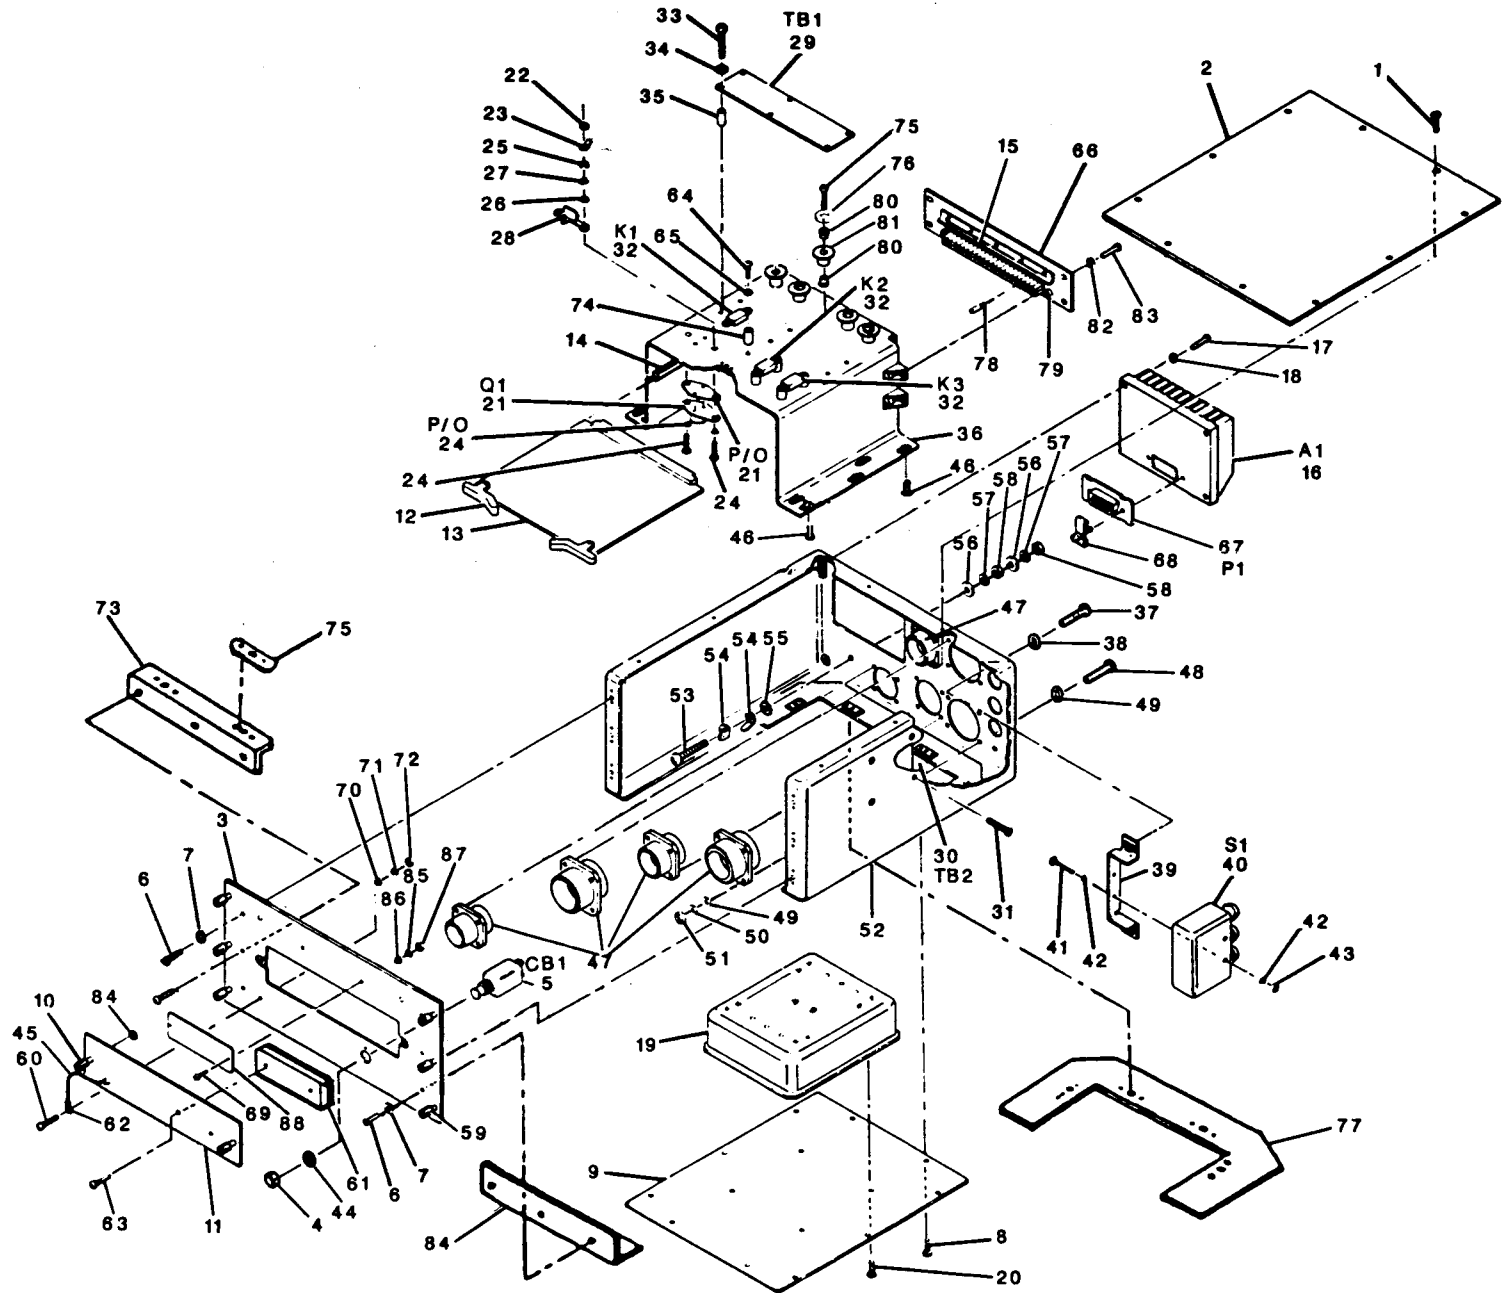
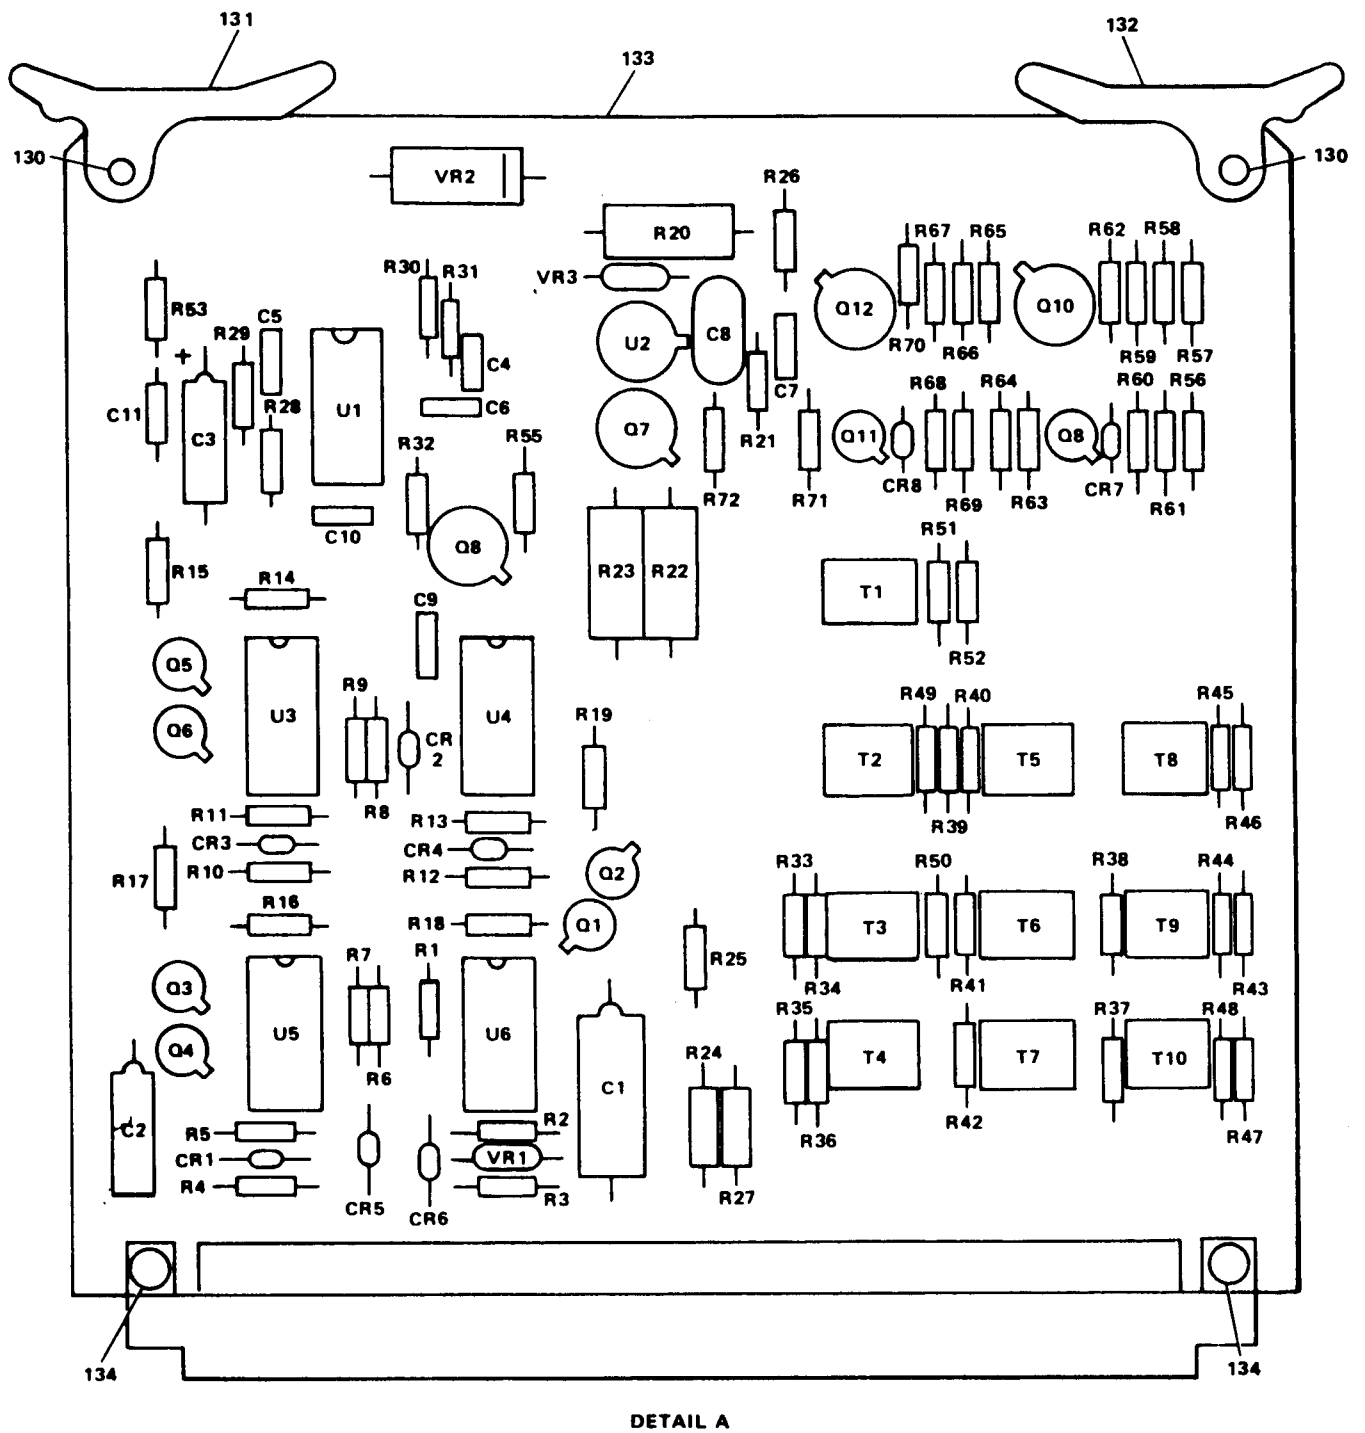
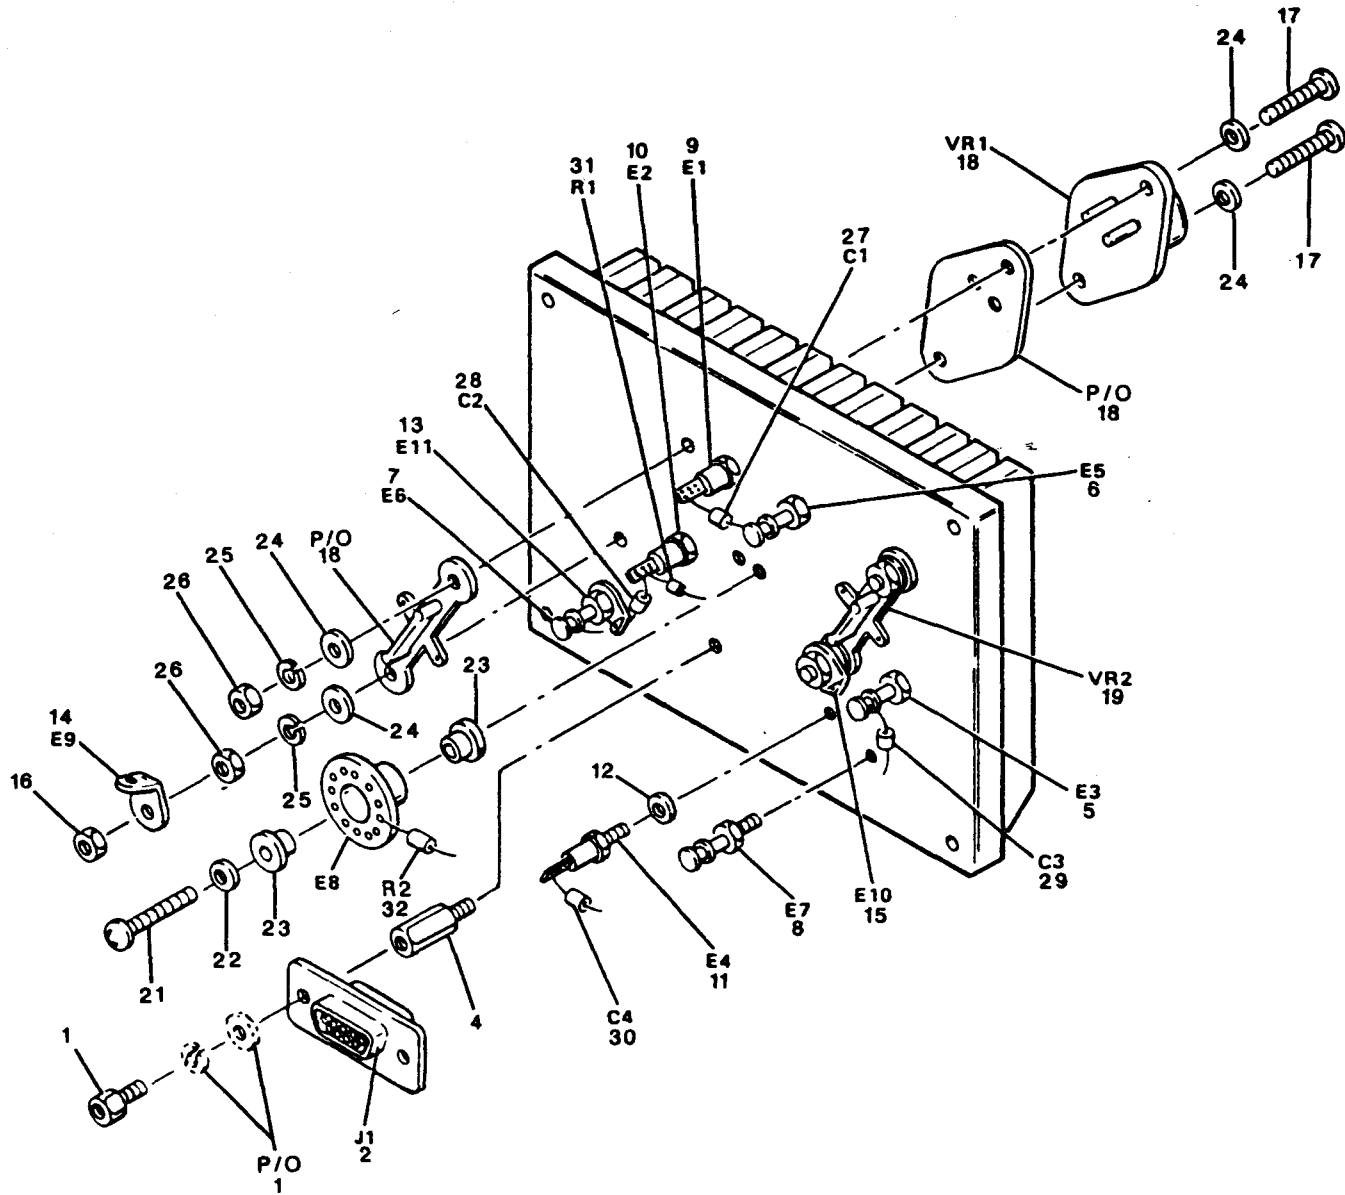

Figure 5-13. Countermeasures Control Component Locations
Figure 5-14. Indicator CCA A3 Component Locations
Figure 5-15. Voltage Regulator A1 Component Locations
- (1) Remove enclosure (6) in accordance with paragraph 5-11a.
- (2) Remove two screws (24), washers (25) and nuts (26) that secure the identification plate (27) to the enclosure (6).
- (3) To replace, secure identification plate (27) using two screws (24), washers (25) and nuts (26).
**5-12. Countermeasures Control Procedures.** Countermeasures control maintenance consists of removing the top cover and, if required, repairing the unit using the following procedures. Figure 5-13 shows countermeasures control component locations. Procedures reference components by numbers keyed to figure 5-13.
- (1) Refer to figure 5-13. Remove the 10 screws (1) and top cover (2) .
- (2) To replace top cover (2), align cover with the mounting holes on chassis (52) and install the 10 screws (1).
b. Front Panel Removal and Replacement. Refer to figure 5-13 and proceed as follows:
- (1) Remove six screws (6) and flat washers (7) that secure front panel (3) to chassis (52).
- (2) Remove top cover in accordance with paragraph 5-12a.
- (3) Remove two screws (8) that secure bottom cover (9) to front panel (3), then pull front panel out of the chassis (52).
- (4) On front panel (3), remove outer collar nut (4) and lock washer (44) from circuit breaker (5).
- (5) To replace front panel (3), place the circuit breaker (5) in the front panel (3) and install the outer collar nut (4) and lock washer (44) on the circuit breaker.
- (6) Align the front panel (3) with the mounting holes and install the six mounting screws (6) and flat washers (7) that secure the front panel to the chassis (52).
- (7) Install the two screws (8) that secure the bottom cover (9) to the front panel (3).
- (8) Install the top cover in accordance with paragraph 5-12b.
c. Bottom Cover Removal and Replacement. Refer to figure 5-13 and proceed as follows:
- (1) Place unit bottom-side up and remove 10 screws (8) that secure cover (9) to ECM bracket (36), chassis (52), and front panel (3).
- (2) Remove four screws (20) that secure FL1 (19) to bottom cover (9), then remove cover.
- (3) To replace the bottom cover (9), secure FL1 (19) to the bottom cover (9) with four screws (20).
- (4) Place the unit bottom-side up and align the bottom cover (9) with the mounting holes on the chassis (52) and install the 10 screws (8).
d. Front Panel Plate Removal and Replacement. Refer to figure 5-13 and proceed as follows:
- (1) Release two turnlock studs (10) that secure front panel plate (11) to front panel (3).
- (2) Remove screw (60), washer (62), washer (70), lock washer (71), and nut (72) that secure chain (45) to plate (11).
- (3) To replace front cover plate (11), secure chain (45) to plate (11) with screw (60), washer (62), washer (70), lock washer (71), and nut (72), then secure plate (11) to front panel (3) with two turnlock studs (10).
- (4) Refer to section V of this chapter.
e. PCB Retainer Removal and Replacement. Refer to figure 5-13 and proceed as follows:
- (1) Remove front panel plate (11) in accordance with paragraph 5-12d.
- (2) Remove two screws (63) that secure PCB retainer (61) to front panel plate (11).
- (3) Replace PCB retainer (61) to front panel plate (11), using two screws (63).
- (4) Replace front panel plate (11) in accordance with paragraph 5-12d.